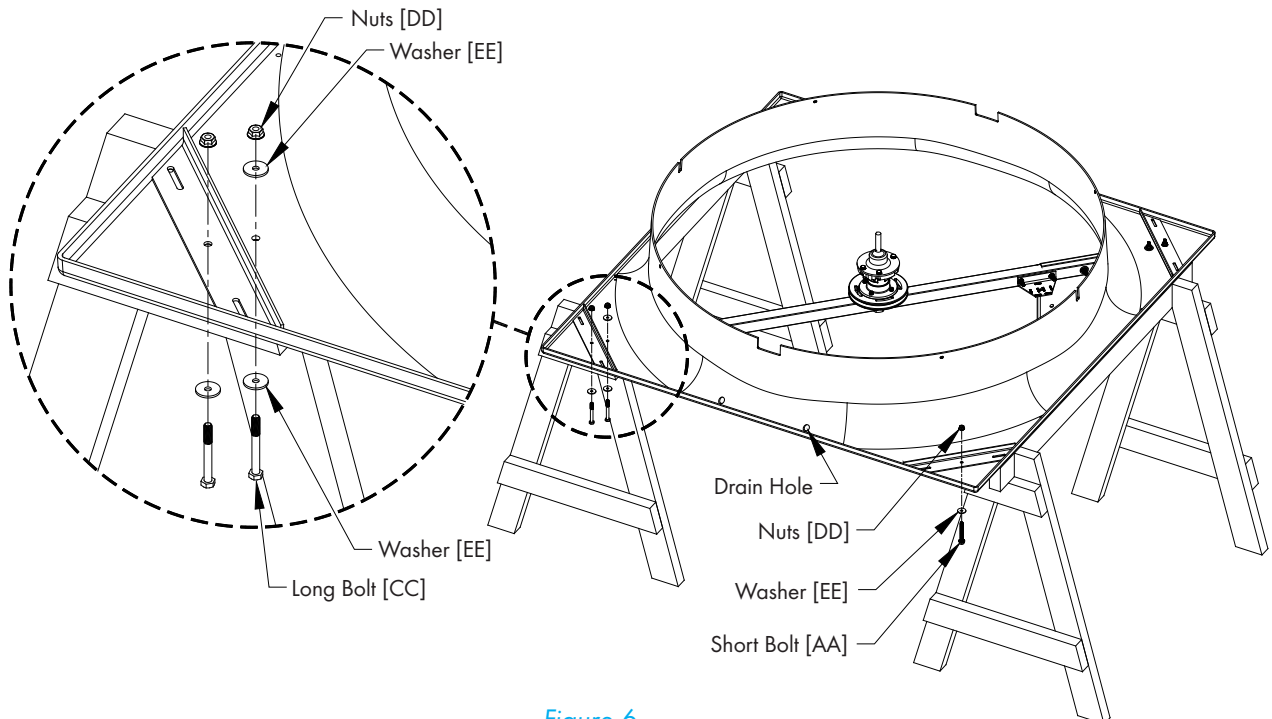

Figure 6
Corners of Orifice Panel with 2 holes are corners where Strut Assembly attaches. Secure Strut Assembly using (4) Long Bolts [CC], (6) Washers [EE] and (4) Nuts [DD]. In the opposite corners attach Cone/Strut Mounting Bracket to the orifice using (1) Short Bolt [AA], Washer [EE] and Nut [DD]. See Figure 6.